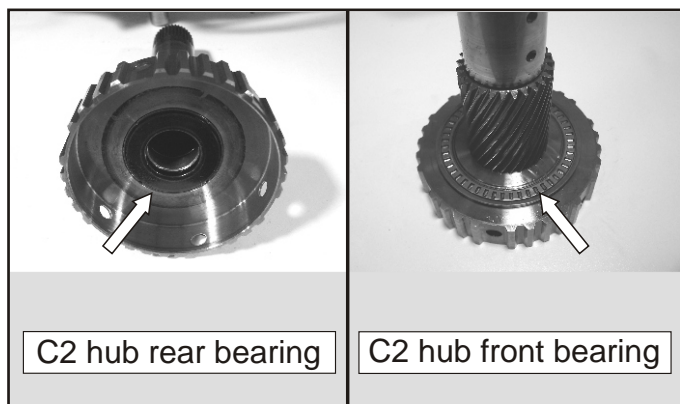
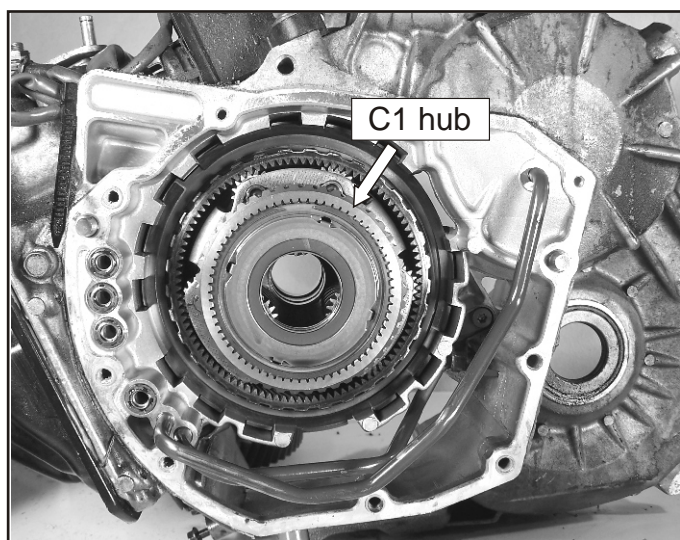

Figure 74
Figure 75
23. Refer to Figure 74 for a view of the C2 hub with the front and rear bearings.
24. Refer to Figure 74 for the bearing placements on the C2 hub. Remove the C1 hub as shown in Figure 75.